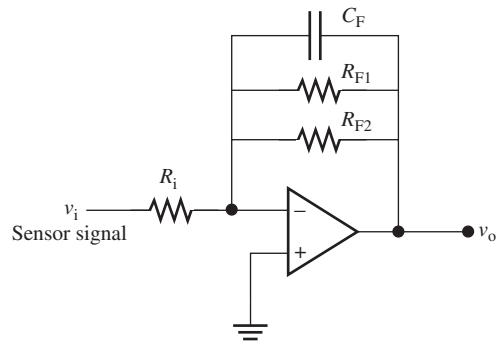

FIGURE P11.25 Low-pass, active filter.
- 11.25** (A) Consider the low-pass, active filter shown in the Figure P11.25. If $v_i(t) = 4 \cos(2000\pi t)\ \text{V}$, $R_i = 10\ \text{k}\Omega$, $R_{F1} = 40\ \text{k}\Omega$, $R_{F2} = 60\ \text{k}\Omega$, and $C_F = 500\ \text{pF}$, find $v_o(t)$.